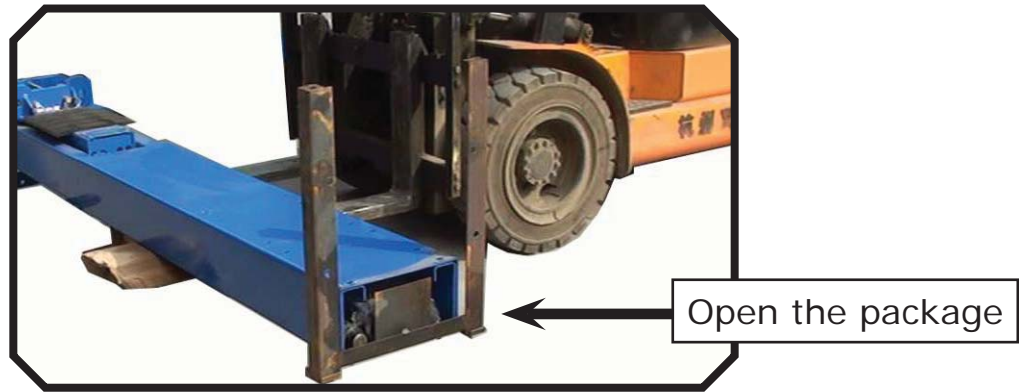

Fig. 10
- Lift the lower column with a fork lift or hoist, remove the package stand and take off the lower column. Remove the parts in the lower column (See Fig. 10).